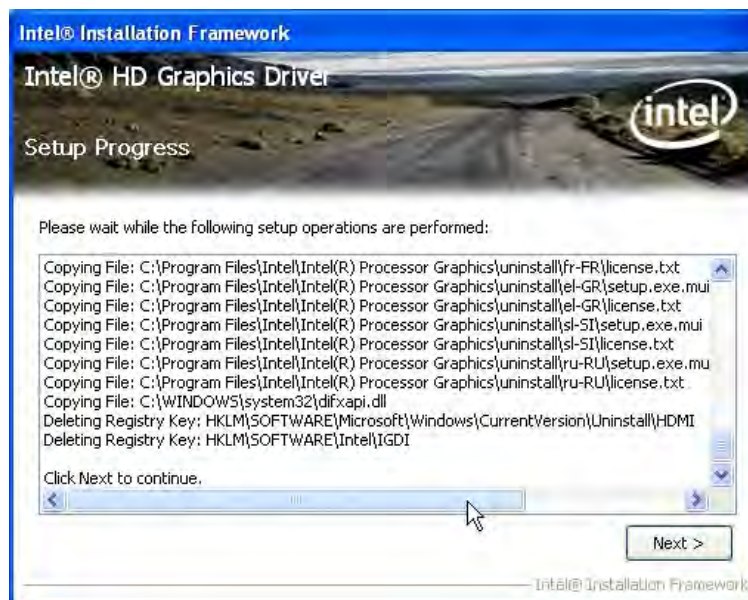

Figure 6-11: Graphics Driver Setup Operations
Step 8: **Setup Operations** are performed as shown in **Figure 6-11**.